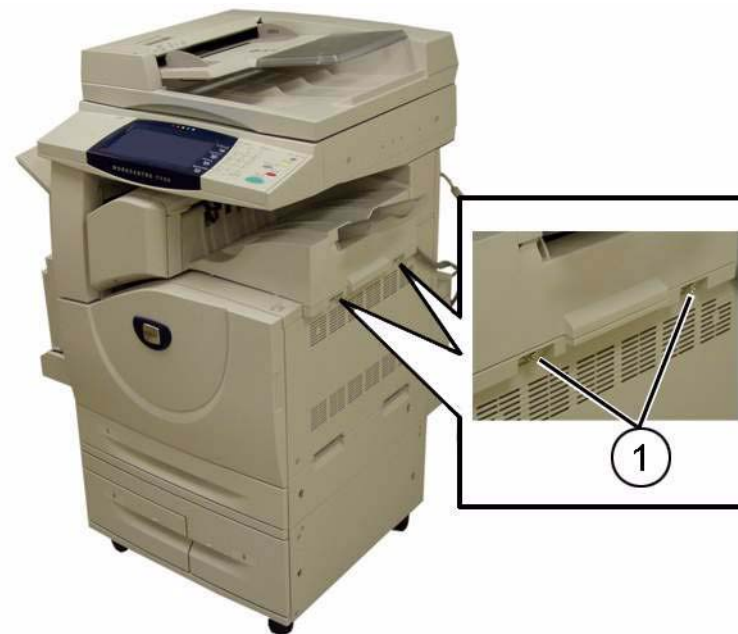

Figure 2 Loosen the Thumb Screws (af422105)
2. Loosen the Thumb Screws. (2) (Figure 2)